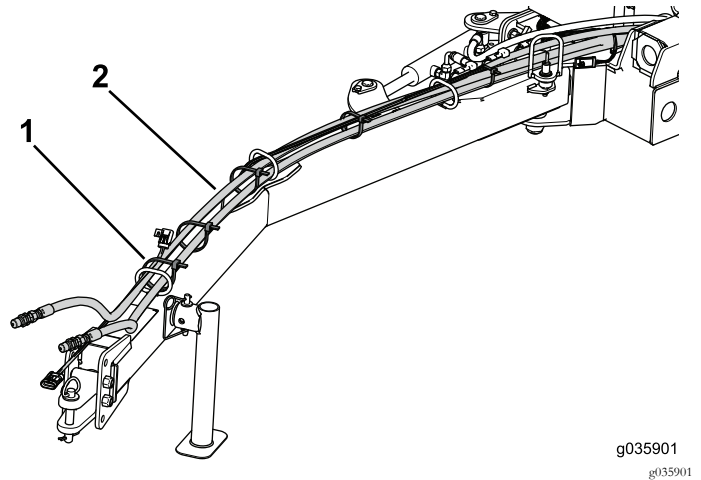

Figure 25
8. Use cable ties to secure the wire harness to the hydraulic hoses (Figure 25).